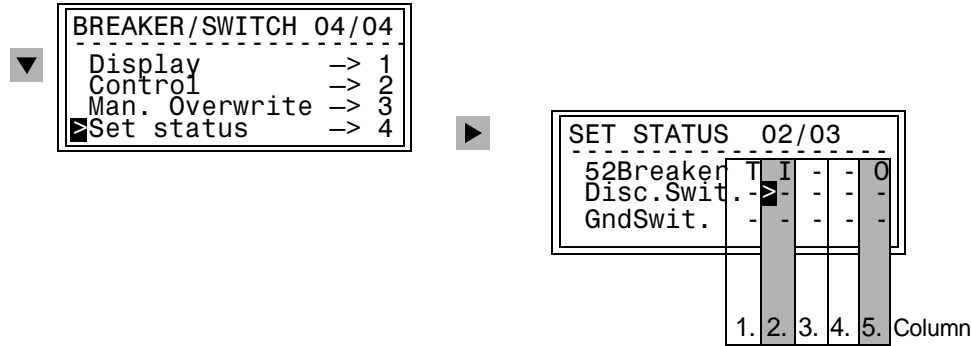

Figure 7-51 Set Status at the Front Panel
Select the item **Set Status** with the **▼** key and switch to the next option using the **►** key. **SET STATUS** appears, as shown in Figure 7-51.
The example in Figure 7-51 shows the position for the circuit breaker (52) was tagged (T) after the input ignore (I) was set, which means the message input was de-coupled from the system. The output block is active (O), so the command output is also de-coupled from the system. For the disconnect switch and the ground switch, no limitations are set.